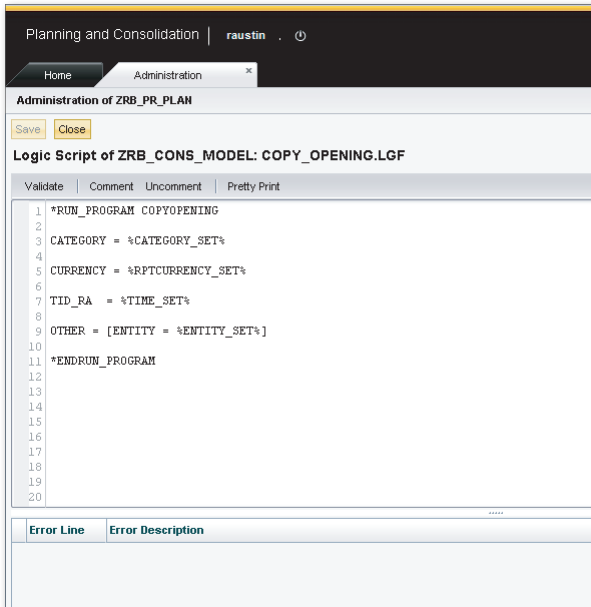

Figure 9.6 Configuring Carry Forward Balance Business Rule—Part F
6. Create the standard logic script COPY_OPENING.LGF (if one does not already exist) to execute the copy opening balance business rule, as shown in Figure 9.6.